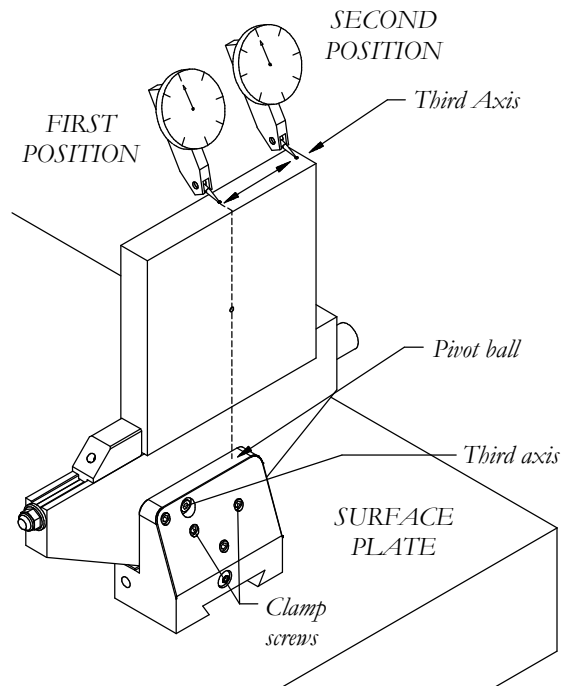

Figure 4
STEP 12. Remove the V06/TD01 and work piece off the MCD01 or PS01 and set back on the surface plate as shown in Fig. 4.
STEP 13. (A). Place the indicator ball on the work piece directly overhead of the pivot ball in the TD01 as shown in Fig. 4. **(B).** Zero the indicator. **(C).** Move the indicator ball to the fixed jaw end. **(D).** Adjust the cam until the indicator reads zero. The third-axis is trued.